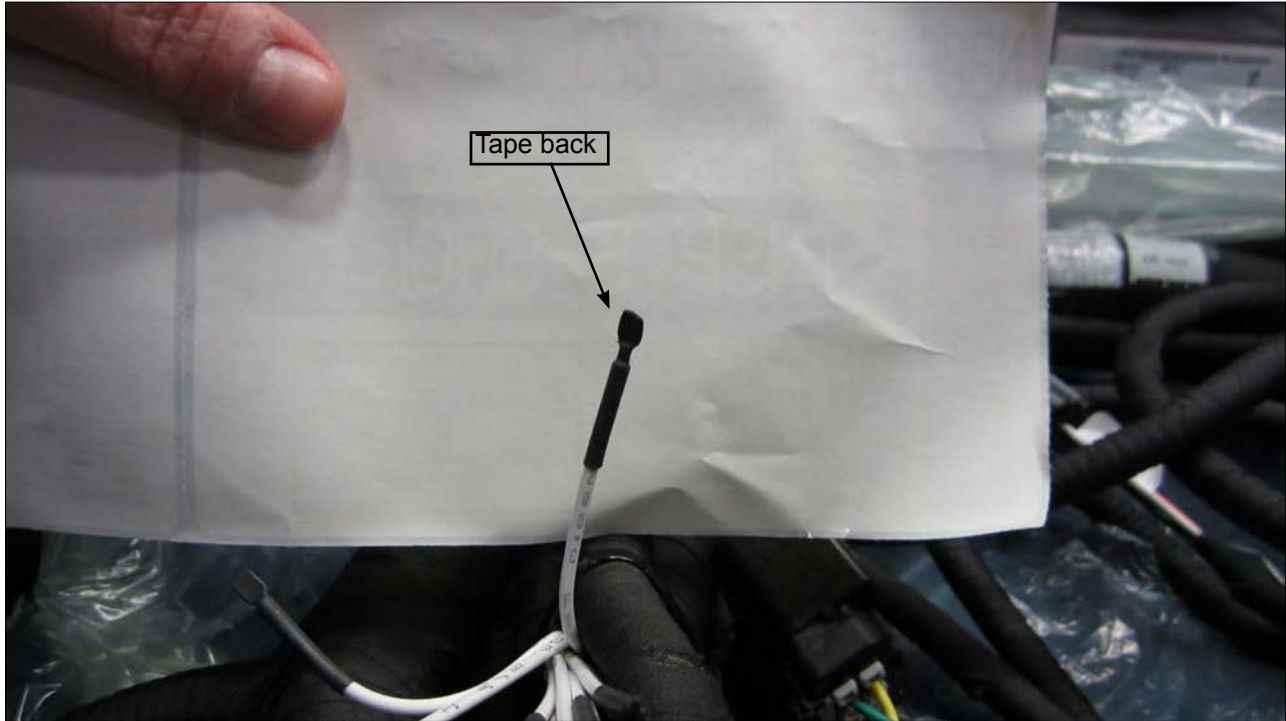

Figure 13 - Tape Back
- 1.18. Tape back using N27548-18 on all wires cut or disconnected (see Figure 13).